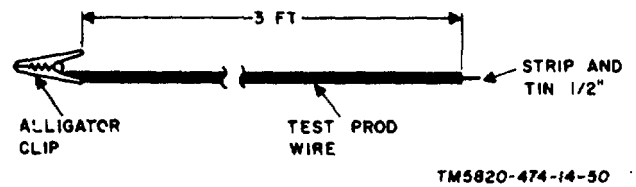

Figure 50. Test cable No. 5, construction details.
e. *Test Cable No. 5* (fig. 50). Test cable No. 5 is a general-purpose test lead. It is used in several tests to connect test points to equipment input terminals. Four cables are required.